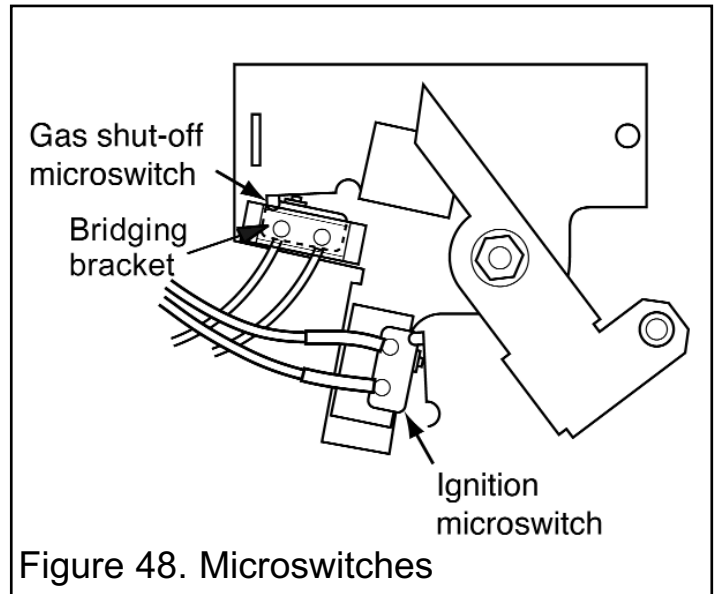

Figure 48. Microswitches
See figures 48 & 49.
2. Disconnect the leads from the ignition microswitch (The lower of the two microswitches - See figure 48).
(See figures 48 & 49).
3. Detach the bridging bracket, microswitch assembly by removing two screws (See figure 48).